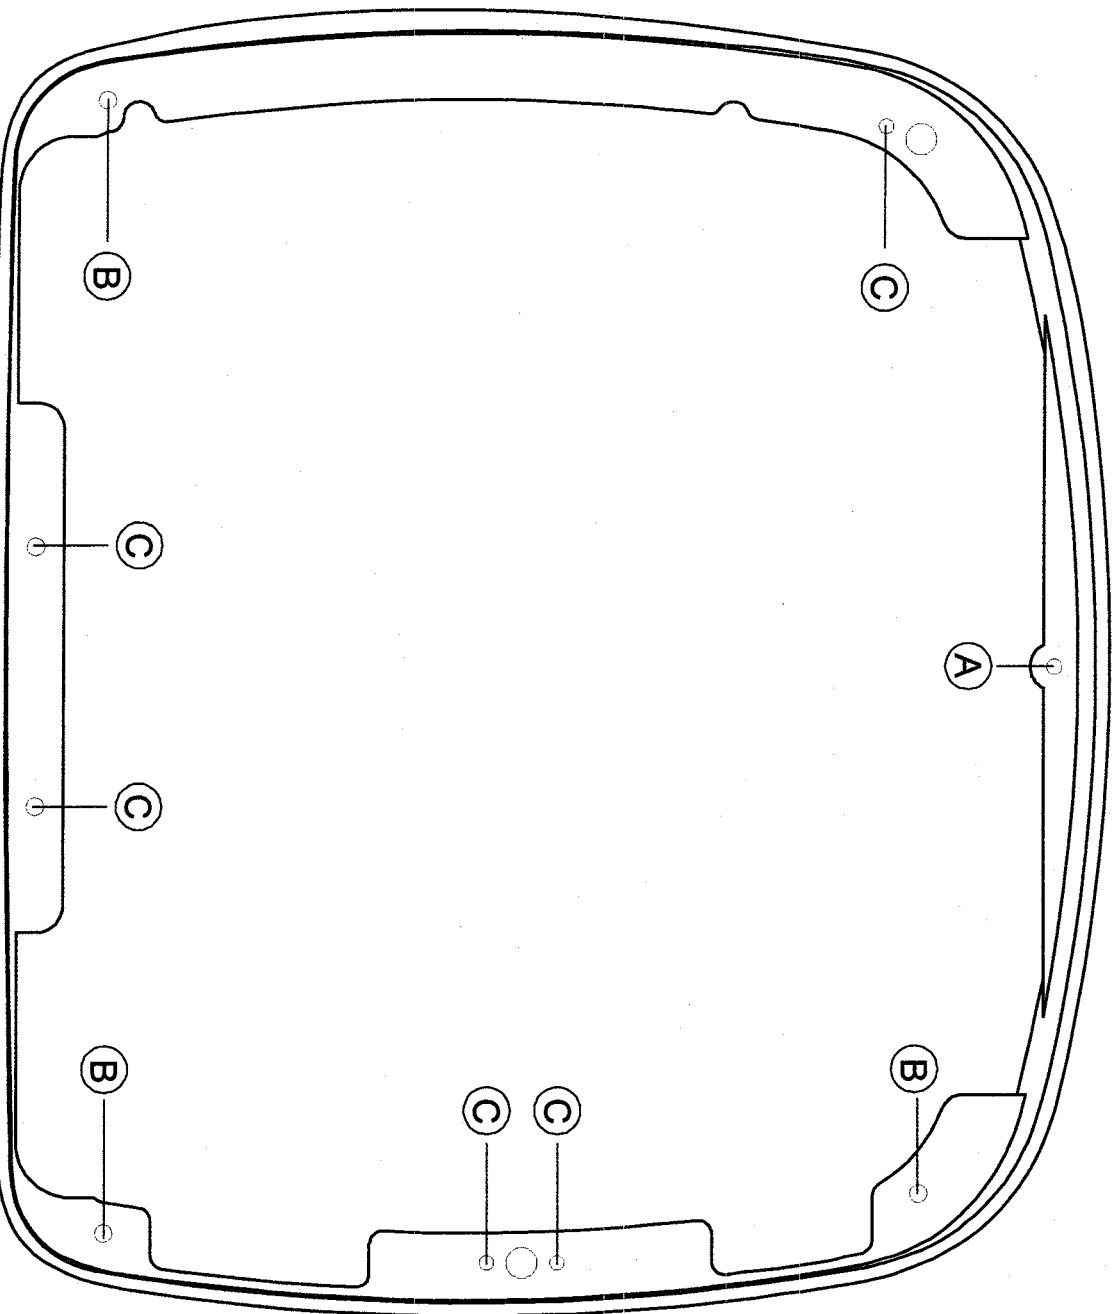

FIGURE 71
- 2.) ATTACH THE DVD ASSEMBLY TO THE TRIM RING USING A SCREWDRIVER AND THE 9 TRIM RING SCREWS. (SEE FIGURE 71)